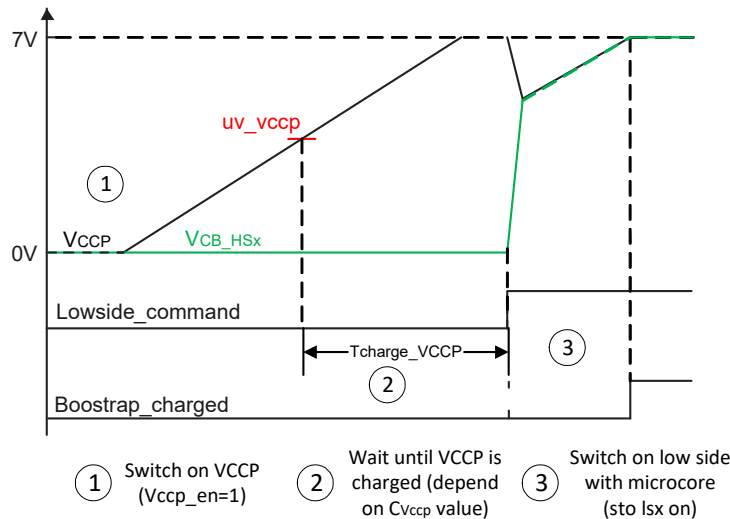

Figure 22. Power-up: V_{CCP} and bootstrap capacitors - after V_{CCP} fully charged
1. Wait for some specific time after V_{CCP} regulator is activated to ensure the V_{CCP} output voltage has reached its nominal value of about 7.0 V. This is only possible if the V_{BATT} voltage is at a nominal value. Switch on the LS MOSFET(s) to charge the bootstrap capacitors. If the V_{CCP} voltage was high enough and the bootstrap capacitors are small compared to the V_{CCP} output buffer capacitor, this leads to a transfer of charge without crossing the V_{CCP_UV} threshold again. Figure 22 shows this strategy.